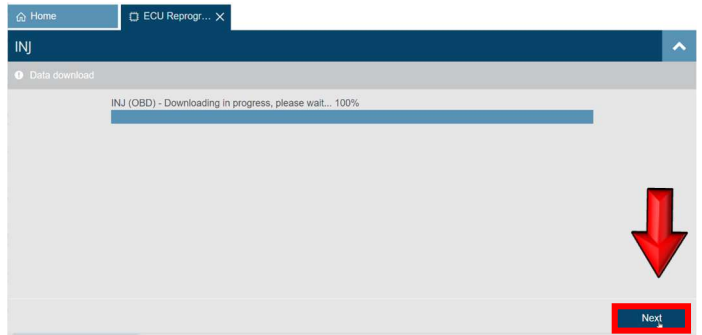

Figure 15
15. Once software download has completed, select **Next** (Figure 15).